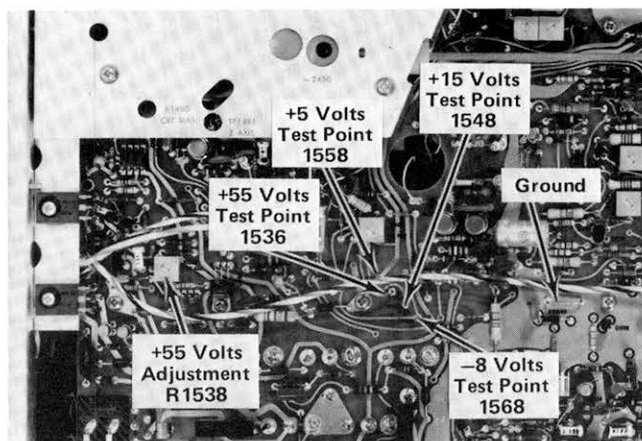

Fig. 5-2. Low-voltage power supply test points and adjustment locations.
a. Connect the Precision DC Voltmeter between test point (TP) 1536 and GND (negative meter lead to ground) on the Interface board. See Fig. 5-2.
c. ADJUST—+55 Volt Supply adjustment R1538 (see Fig. 5-2) for a meter reading of +55 volts within 0.1% (0.05 mV).
d. Using the precision DC Voltmeter, measure the DC level of the power supplies given in Table 5-5. Observe proper meter polarity. See Fig. 5-2 for test point locations.